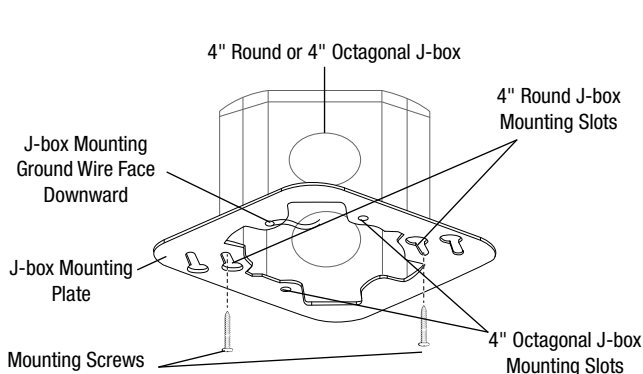

FIGURE 1
1. Loosen mounting screws from 4" octagonal j-box. Fully remove mounting screws from 4" round j-box. (Figure 1)